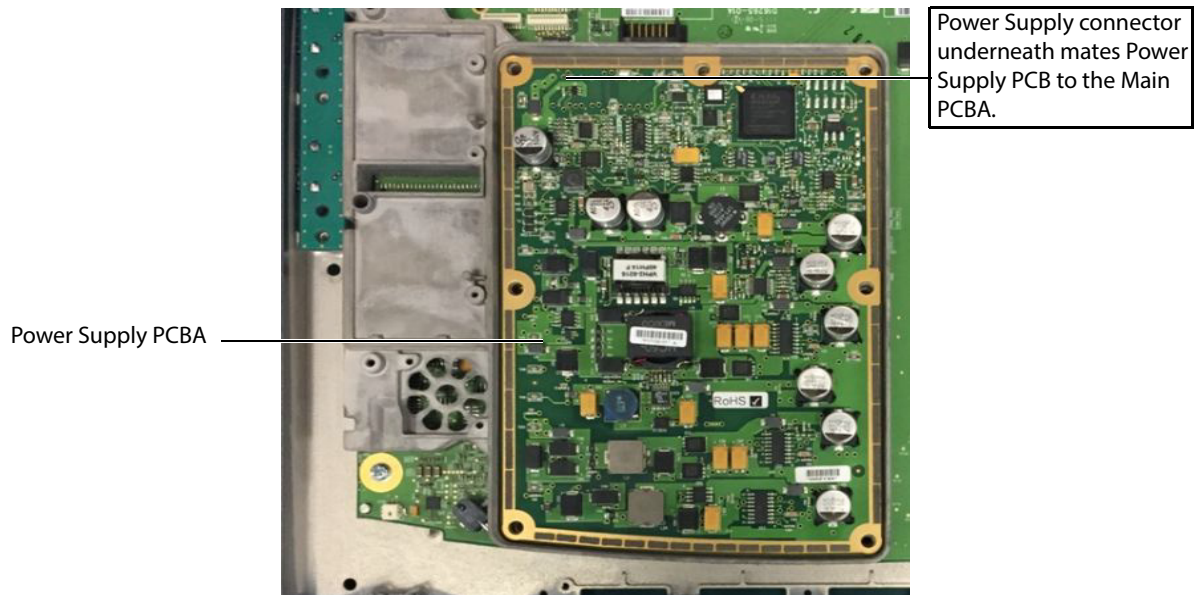

Figure 6.12 Power Supply PCBA
- 2 Gently lift the Power Supply PCBA and Power Supply Shield away from the Main PCBA as shown in Figure 6.12. (The Power Supply PCBA connector is in the upper left corner. Removing the Power Supply PCBA without also removing the shield is difficult.)